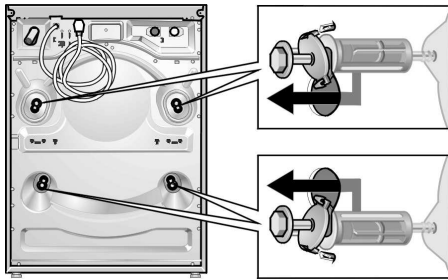

Figure 14
- ❑ Completely remove all 4 transport bolt assemblies (bolt, washer and bushings) by reaching through the open washing machine door and pulling the drum slightly forward to loosen, then pull them out from the back (see **Figure 14**).